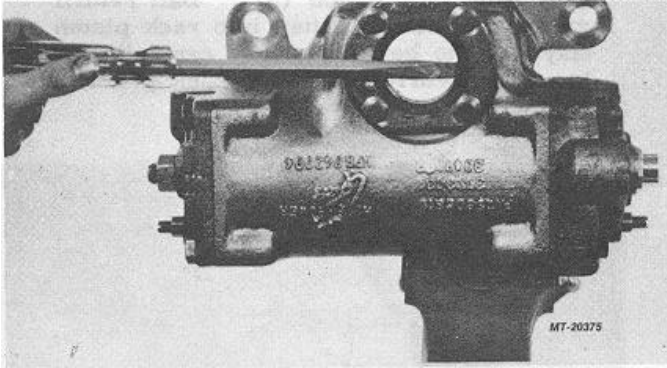

Fig. 9
11. Remove seal (27) from trunnion cover (26) with a screwdriver and remove four screws (28) from trunnion cover and remove trunnion cover (Fig. 9).